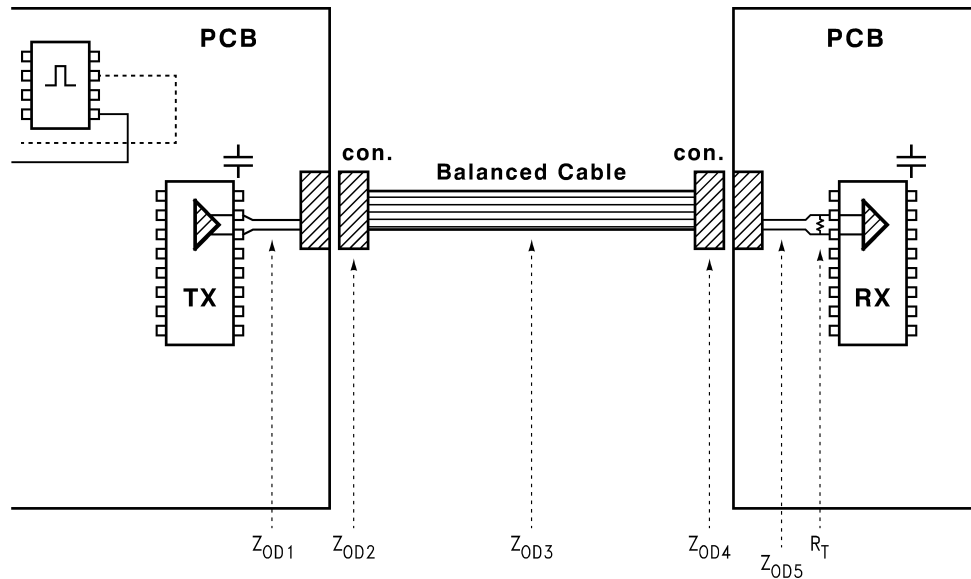

FIGURE 2. TX and RX Location
The transmitter should be located as close to the connector as possible (see *Figure 2*). This is done to minimize the LVDS PCB overall trace length (see following section on differential traces) and skew as well. Skew is generally proportional to length, thus a shorter interconnect has nominally less skew associated with it. If the TX is located within 2 inches of the connector, serpentine (trace length compensation to generate zero skew) is not required. If the TX is more than 2 inches away, equal length traces should be employed. It is not a requirement of the TX device to be located adjacent to the ASIC/FPGA (bus controller) device. Recall the ASIC-TX interface is a slow speed bus (compared to the LVDS bus) and has fewer timing constraints. However, the connection between the ASIC and the TX should be designed such that the parallel bus traces are also of equal
The receiver should also be located close to the connector as shown in *Figure 2*. This is done to minimize the LVDS PCB trace length. (see the section on differential traces.) It is not a requirement of the RX device to be located adjacent to the destination controller (ASIC/FPGA). If the distance is greater than a few inches, or for high fanouts (more than 2), external buffering of the RX outputs should be employed. The connection between the controller and the RX should be designed such that the parallel data bus traces are of equal length to avoid skew which could cause a set-up or hold violation at the ASIC controller input pins.
Microstrip traces (outside layer) are usually employed for this interconnect. The microstrip geometry and the fact that the traces are on the outer layer enable higher impedances more easily. It is also possible to design the interconnect without any via, thus a better signaling environment. On the down side, stripline (embedded) traces offer greater shielding due to their encasement. Either microstrip or stripline traces can be used, as long as they are matched to the cable's differential-mode characteristic impedance. This is shown in *Figure 2* where  $Z_{OD1}$  represents the TX PCB impedance and  $Z_{OD3}$  is the cable (interconnect) impedance. It is recommended that all impedances should be within 10% of the target impedance (typically  $100\Omega$ ) to minimize any reflections. Note that a 10% difference in impedance will create a reflection of 5%. Reducing the magnitude of reflections will lower the EMI of the system.
**Note:** The *complete* interconnect between the TX output and the RX input is a high speed transmission line. Driver edge rates are in the 300 ps–700 ps range. The TX PCB traces, connectors, cable media, and RX PCB traces are all part of the system. Their impedances should be matched within 10% to maintain signal quality and generate the lowest amount of emissions. There are 4–6 impedances to consider, depending upon the application (the size of the connector). These are shown in *Figure 2* as  $Z_{OD1}$ ,  $Z_{OD2}$ ,  $Z_{OD3}$ ,  $Z_{OD4}$ ,  $Z_{OD5}$ , and  $R_T$ . Also, minimize extra transitions (board or layer transitions, etc.) here to make this total interconnect as clean as possible.